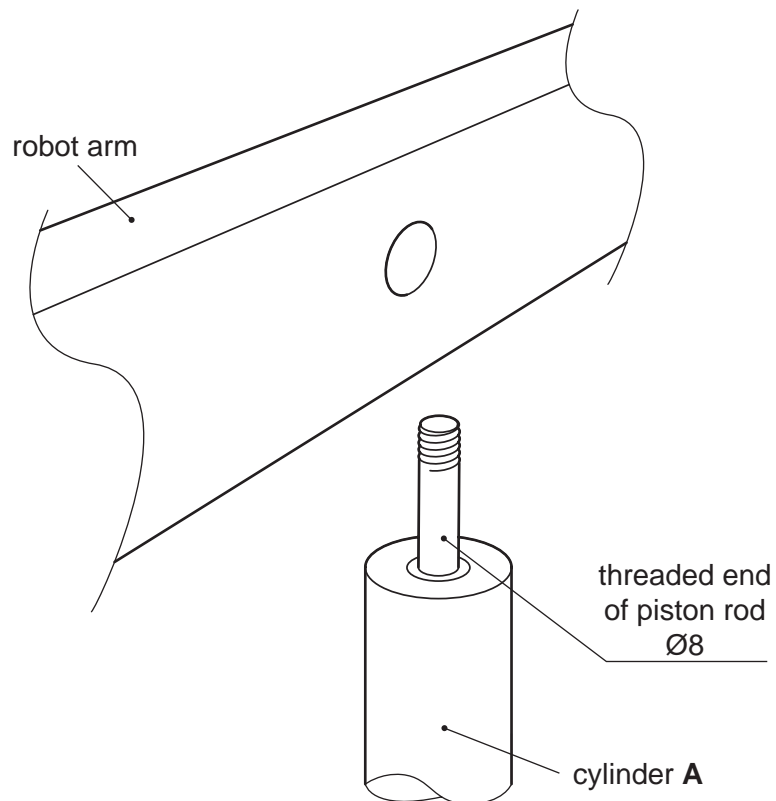

Fig. 4
Fig. 4 shows details of the threaded end of the piston rod and the Robot Arm.
- (a) Using sketches and notes, complete Fig. 4 to show a component that will fit on the threaded end of the $\text{Ø}8$ piston rod and attach to the robot arm allowing the two parts to move as required. [5]